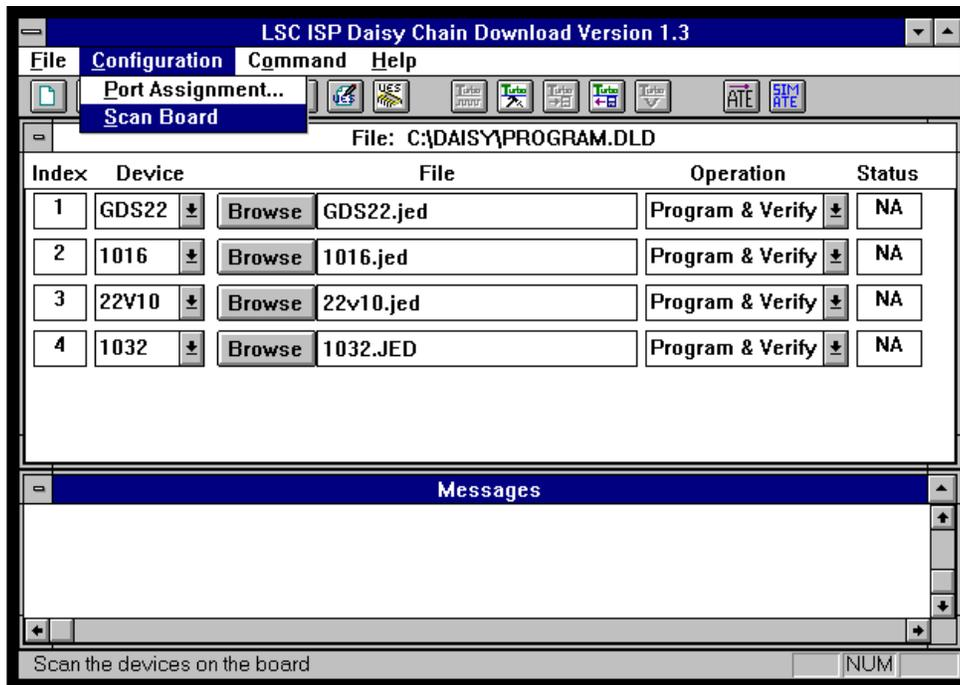
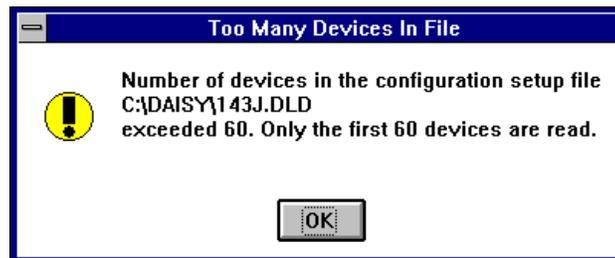
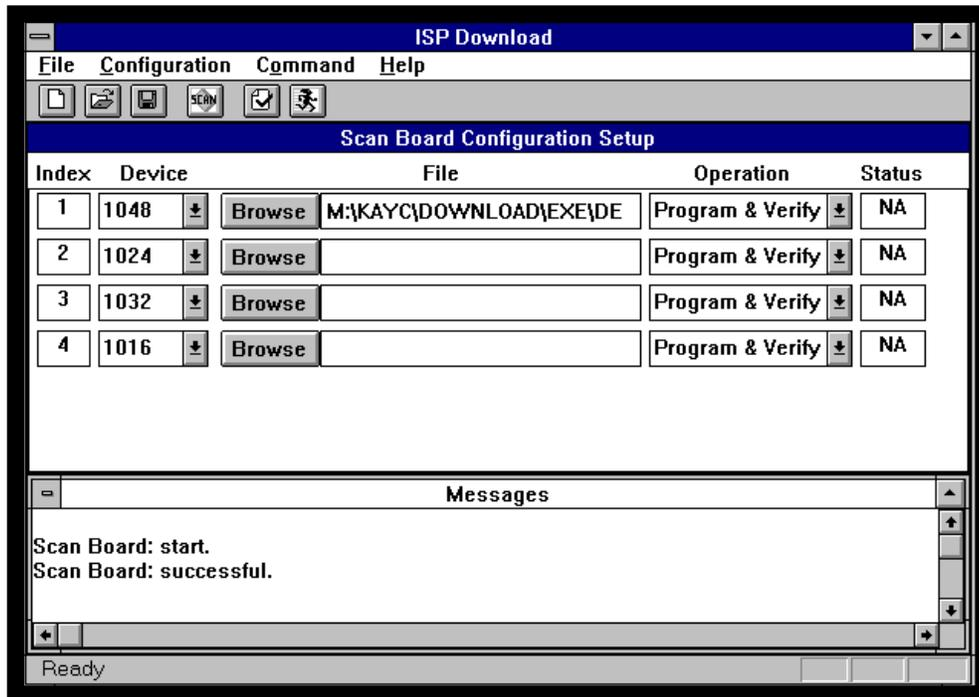

Figure 3-31. **Configuration** ⇒ **Scan Board** Menu Option
Figure 3-32. Number of Devices Detected Dialog Box
Figure 3-33. Scan Board Configuration Setup Dialog Box
1. Select **Configuration** ⇒ **Scan Board** or click the **Scan** icon from the ISP Daisy Chain Download menu (Figure 3-31). If you connected more than 60 devices to the board, an error message appears (Figure 3-32). The IDCD software can only detect and read as many as 60 devices per file. Otherwise, the Scan Board Configuration Setup dialog box appears (Figure 3-33) with the **Index** and **Device** fields filled.